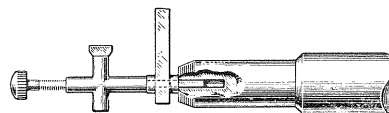

Figure 16—Special Soldering-Iron Tip
- (e) After properly locating the damping block, a soldering iron should be applied to the armature so that the block will melt slightly at its point of contact with the armature. A special tip, constructed as shown in Figure 16, will prove desirable for fusing the block in place. The iron should be applied long enough to slightly melt the block and cause a small bulge on both sides, but should not be applied long enough to cause any bubbling. The pickup should then be reassembled as described in the preceding section.